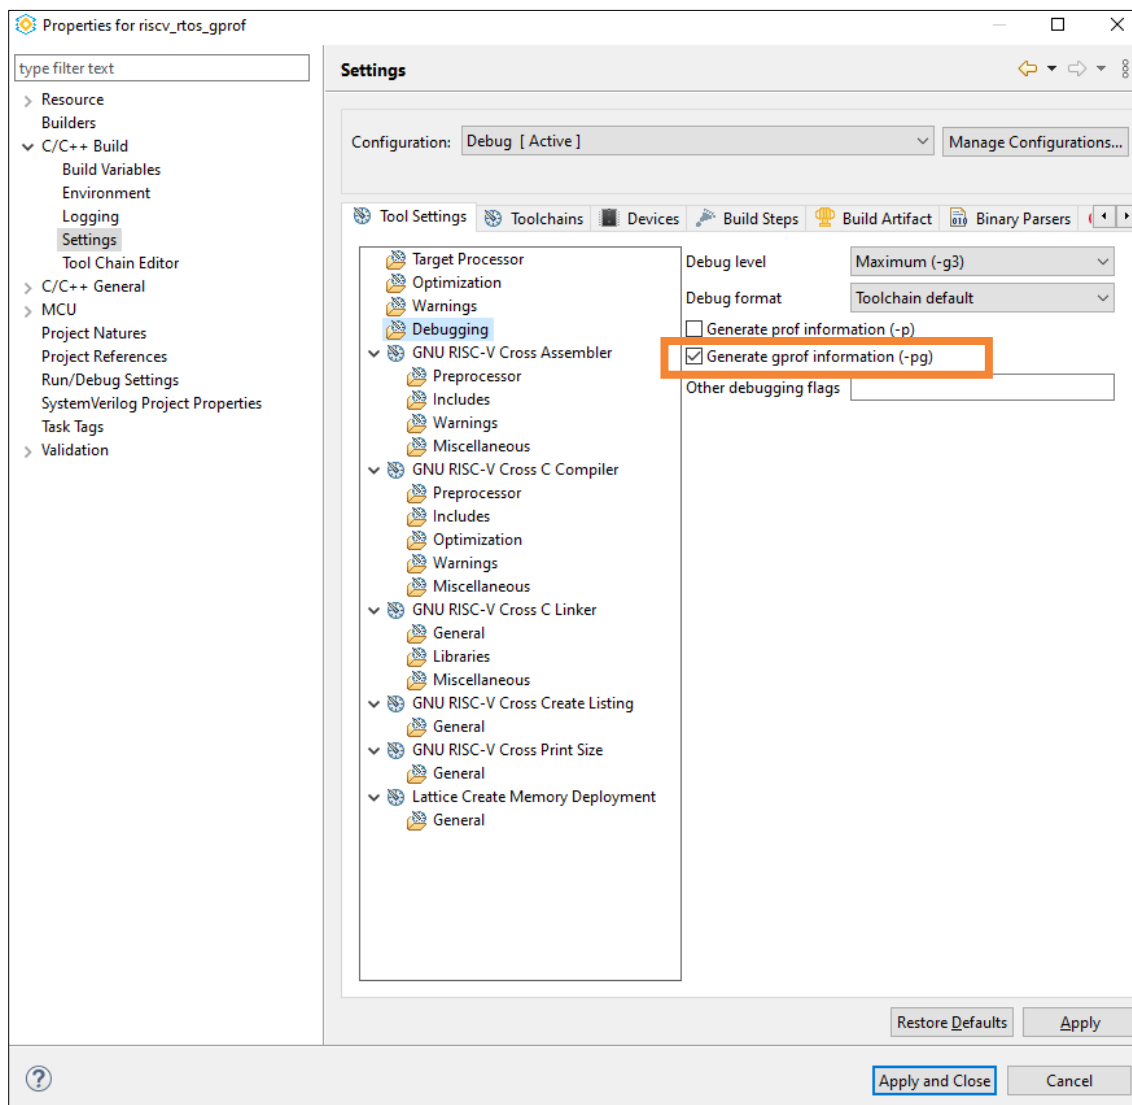

Figure 7.5. Generate gprof Information
3. Select **Debugging**. Enable the **Generate gprof information** checkbox (Figure 7.5).
3. Select **Debugging**. Check the **Generate gprof information** checkbox (Figure 7.5).